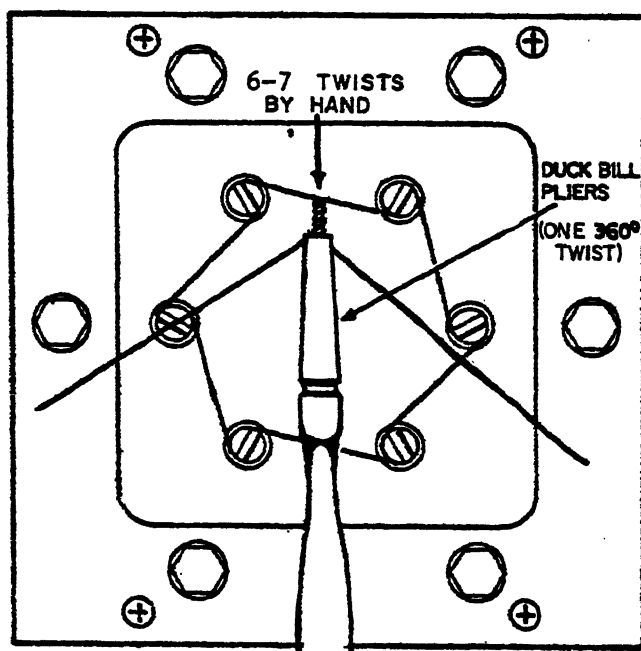

FIGURE 18
- * (1) Keep twists uniform.
- * (2) Do not wrap one wire around the other.
- * (3) Finger tips should NOT be any farther than 6 inches from screwheads as twists are made.
STEP 6: Grasp the wire with duckbill pliers on the last twist; give one 360° twist. See figure 18.